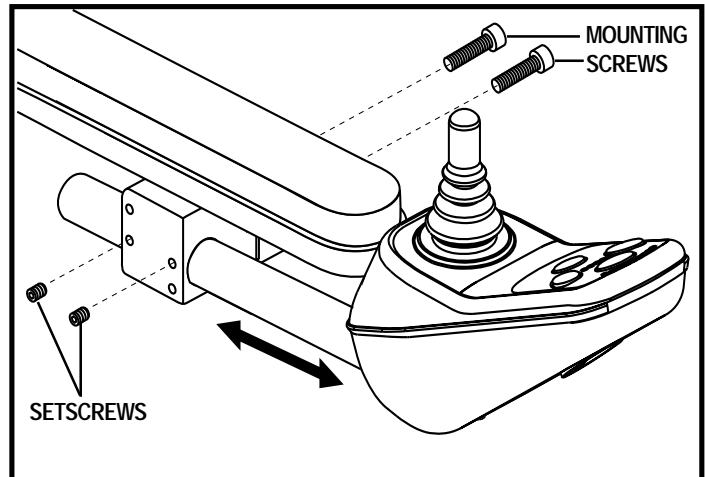

Figure 15. Controller Position Mounting Bracket
**NOTE:** If your power chair is equipped with a Specialty Seat, Synergy Seat or TRU-Balance Power Positioning System, loosen the setscrews in the mounting block, slide the controller in or out to the desired position, then tighten the setscrews. See figure 15.
**NOTE:** If your power chair is equipped with a Specialty Seat, Synergy Seat or TRU-Balance Power Positioning System, loosen the mounting screws in the mounting block, transfer the mounting block and controller to the opposite armrest and tighten the mounting screws. See figure 15.